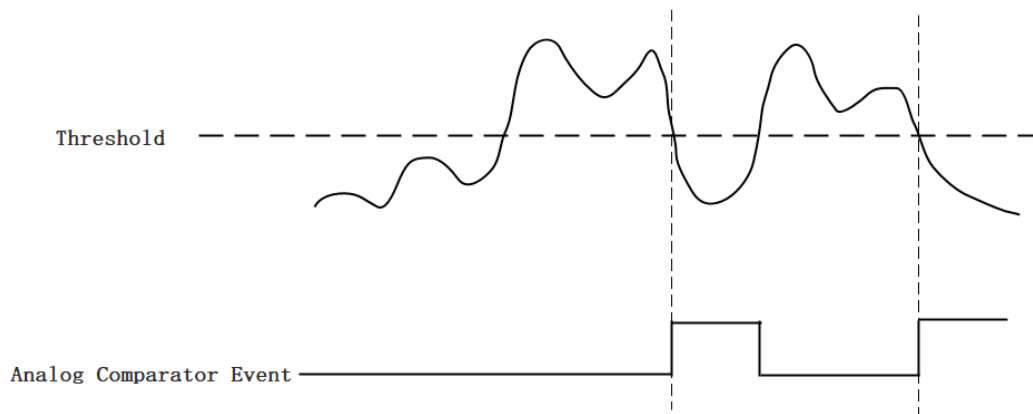

Figure 16 Falling Slope Trigger
*Falling Slope Trigger*: The Edge comparator output is high when the signal goes below the threshold; the output is low when the signal goes above the threshold as shown in Figure 16.